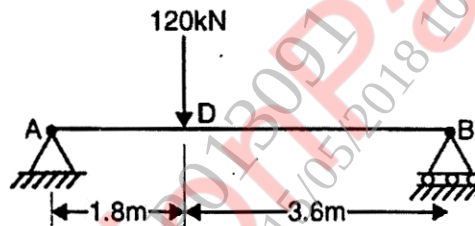

Fig. No 05
- b) The horizontal beam as shown in **Fig. No 05** is hinged at point 'A' and supported on roller at point 'B'. It carries a vertical load of 120 kN at point 'D'. Determine deflection at point 'D' by taking $E = 200 \text{ GPa}$ and $I = 160 \times 10^6 \text{ mm}^4$